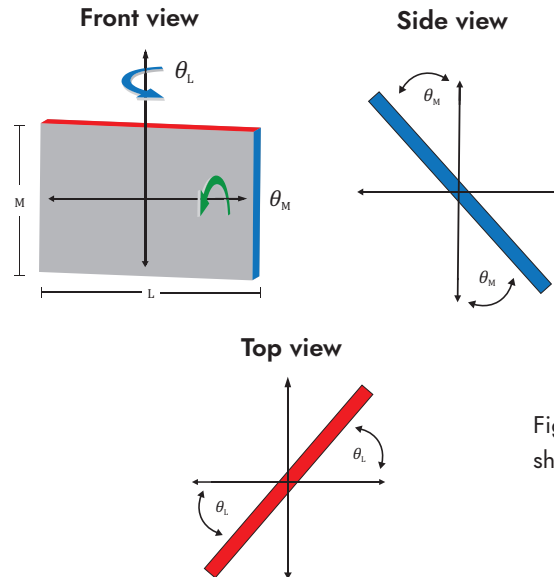

Figure 6: Schematic of specimen showing rotations θ_L and θ_M for step 3
- Determine the maximum angle that the target can rotate for both θ_L and θ_M , where L and M are the actual dimensions of the calibration target provided with the VIC-EDU system. See Fig. 6 to provide additional guidance. You should measure both L and M if these dimensions are not engraved on the target. You may want to consider equations such as the following.